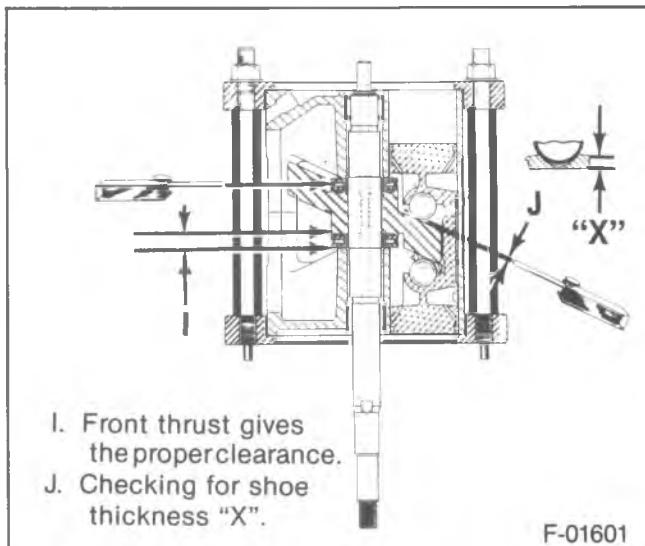

Figure 35—Checking the Piston and Shaft End Play
- An alternate method is to use J-9661-01 in selecting a suitable feeler gage leaf until the result is a 1.1 N to 2.2 N (4 to 8 ounces) pull on the scale between the rear thrust bearing and upper (or outer rear) thrust race (figure 35).